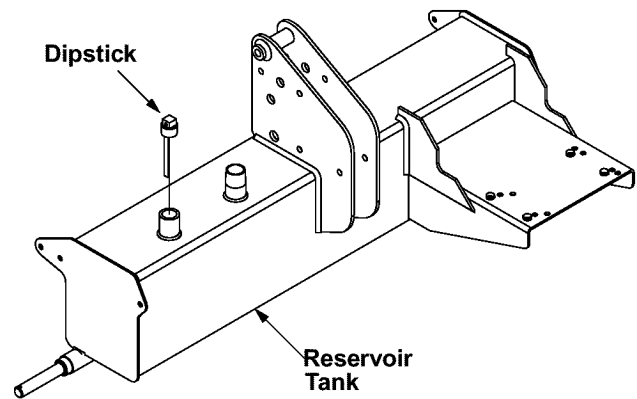

Figure 12
- Remove vented reservoir dipstick or pipe plug, as the case may be, located in front of the engine on top of the reservoir tank. See Figure 12.